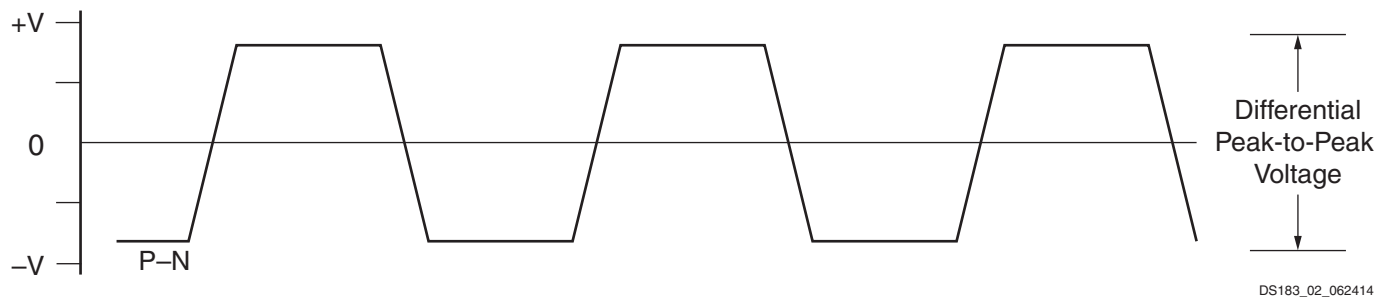

Figure 2: Differential Peak-to-Peak Voltage
**Note:** In Figure 2, differential peak-to-peak voltage = single-ended peak-to-peak voltage x 2.